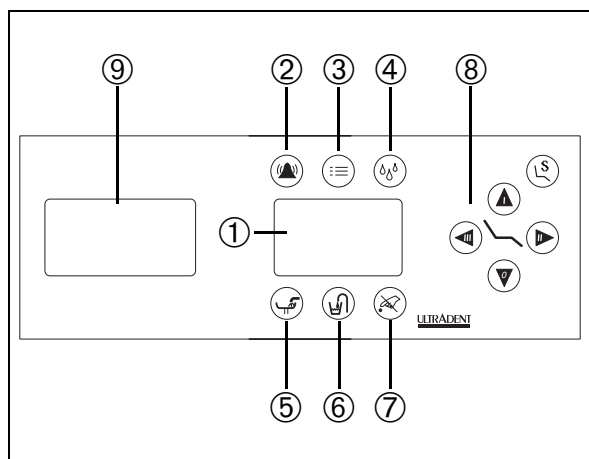

Fig. 85
The small X-ray viewer ⑨ (Fig. 85) can be used to look at tooth X-rays, and is integrated into the unit's control panel. It switches on automatically when the workstation is started up.